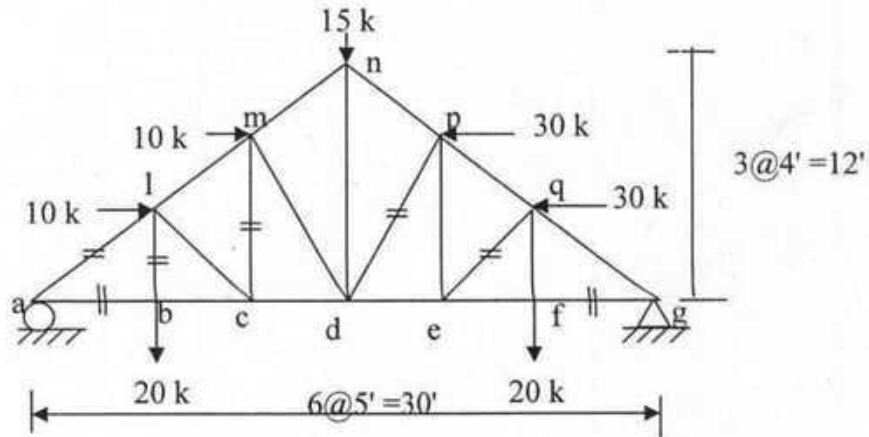

Fig: 12
13. For the truss shown in Fig.12, find the forces in the members bl, mc, bc, eq,dp, gf and al.